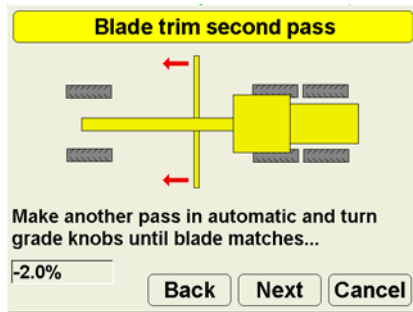

Figure 4-13. Blade Trim Second Pass Dialog Box
5. Check the slope at the lower left corner of the dialog box (Figure 4-13 on page 4-11).